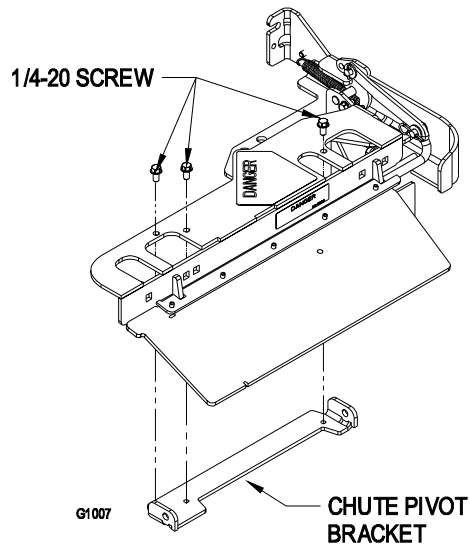

FIGURE 11A
- a) Install three 1/4-20 self-tapping screws (item 11) into the chute pivot bracket (item 19) as shown in Figure 11A.